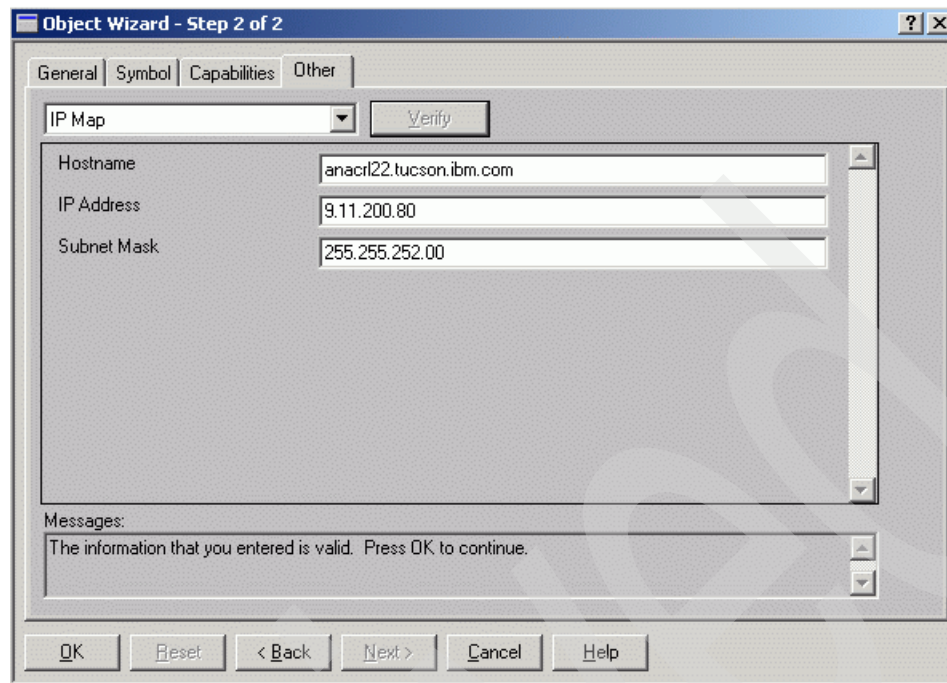

Figure A-18 NetView: Create new object
2. Select the **Other** tab and specify the Hostname, the IP Address of the IBM TS3500, and the Subnet Mask (see Figure A-18). Before you can create this new object, you have to verify the connection. Click the **Verify** icon for that purpose.